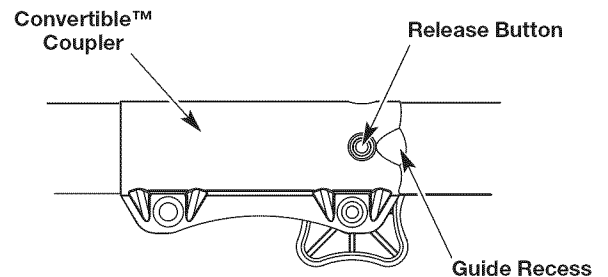

Fig. 2
NOTE: Aligning the release button with the guide recess will help installation (Fig. 2).
2. Press and hold the release button (Fig. 2).